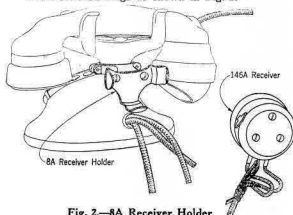

Fig. 2.—8A Receiver Holder
- 3.01 The 8A receiver holder should be installed on "D" type hand set mountings as shown in Fig. 2.